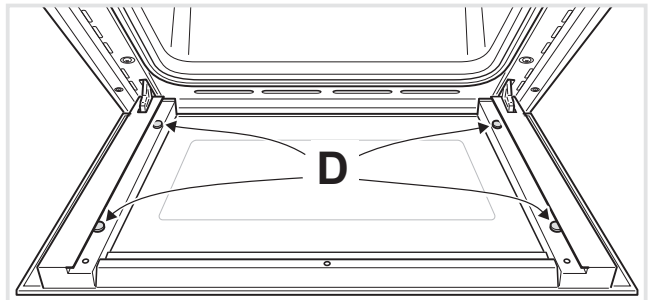

Figure 27a
- Check that the four rubber pads are in place (“D” in Fig. 27a).